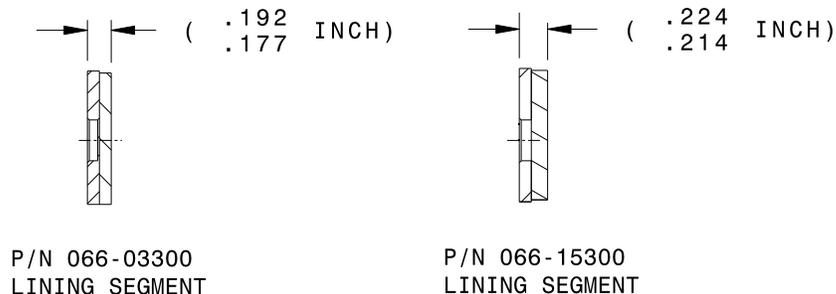

Figure 1 Lining comparison
(1) Lining comparison. Refer to Figure 1.